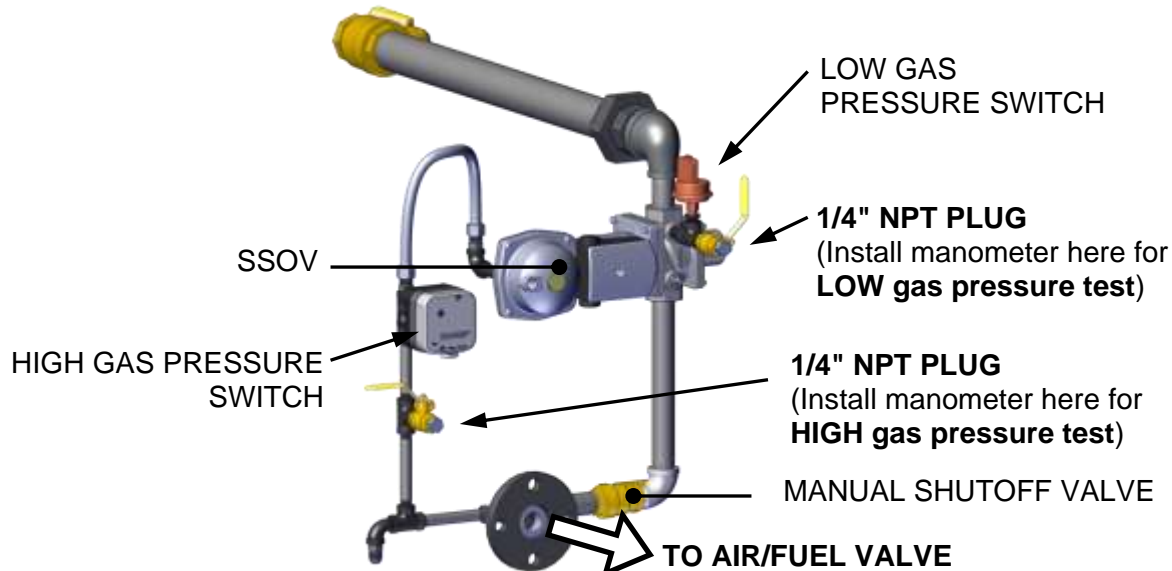

Figure 5.2: Low & High Gas Pressure Testing (INN600N–800N Gas Train Shown)
To simulate a low gas pressure fault, refer to Figure 5.2 and proceed as follows:
1. Refer to Figure 5.2 and ensure that the leak detection ball valve located at the **Low Gas Pressure** switch is closed.
To simulate a high gas pressure fault, refer to Figure 5.2 and proceed as follows:
2. Remove the 1/4" plug from the leak detection ball valve located at the **High Gas Pressure** switch (see Figure 5.2).